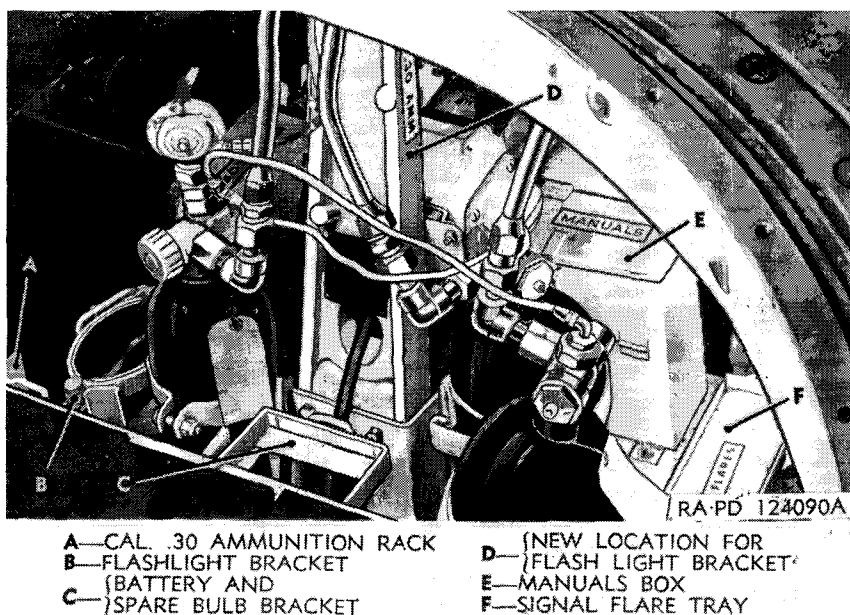

Figure 21. Parts to be removed from drivers' compartment.
f. Cut away the two cal. .30 ammunition racks from the front side of the front bulkhead which is directly in back of the driver (fig. 21).
h. Remove the manuals box and the signal-flare tray (fig. 21) from the mounting plate at the left of the assistant driver. These are tack welded to the plate and can be removed with a cold chisel.